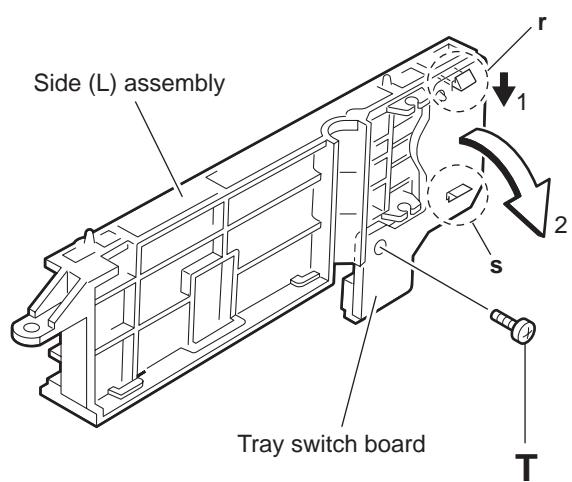

Fig.21
- Remove the screw **T** attaching the tray switch board to the side (L) assembly. (See Fig.21.)
- Release the joint tab **r** of the side (L) assembly in the direction of the arrow 1 and release the joint tab **s** while removing the tray switch board in the direction of the arrow 2. (See Fig.21.)